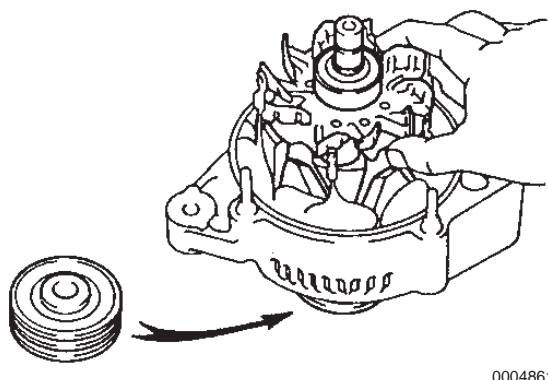

Figure 11-35
1. Install the rotor assembly into the drive end frame and install the pulley to the shaft (**Figure 11-35**).